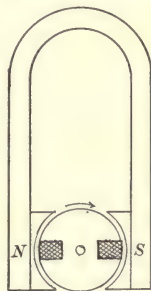

FIG. 286. — Magneto has permanent steel magnets.
In the magneto (Fig. 286) the magnetic field is supplied by permanent steel magnets. In most other generators, the magnetic field is furnished by powerful electromagnets. Sometimes the current needed to excite these magnets is supplied by some outside source, such as a storage battery, but generally the machine itself furnishes the exciting current. There are three types of generators differing in the method of exciting the field coils; (1) *series-wound*, in which the whole current generated passes through the field coils on its way to